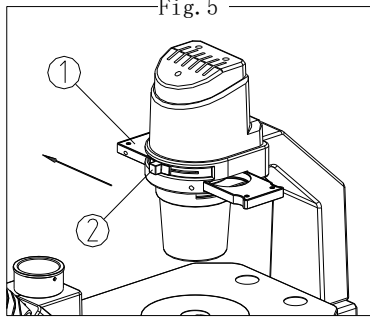

Fig. 6
- (1) Place the phase-contrast slide ① upward (with letters upward), insert it into the illumination holder from right to left. (See Fig.6)
- (2) Each diaphragm has its corresponding fixed position. Enter the diaphragm into optical way by shifting the phase-contrast until a sound of “kada” is heard.
- (3) Keep the aperture diaphragm adjusting rod ② in position “o”(max) when doing the phase-contrast observation.